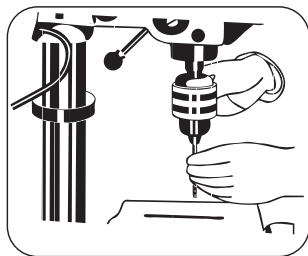

FIGURE 8.19
- Make sure the drill bit is centered in the chuck before tightening it with the chuck key (Figure 8.19).